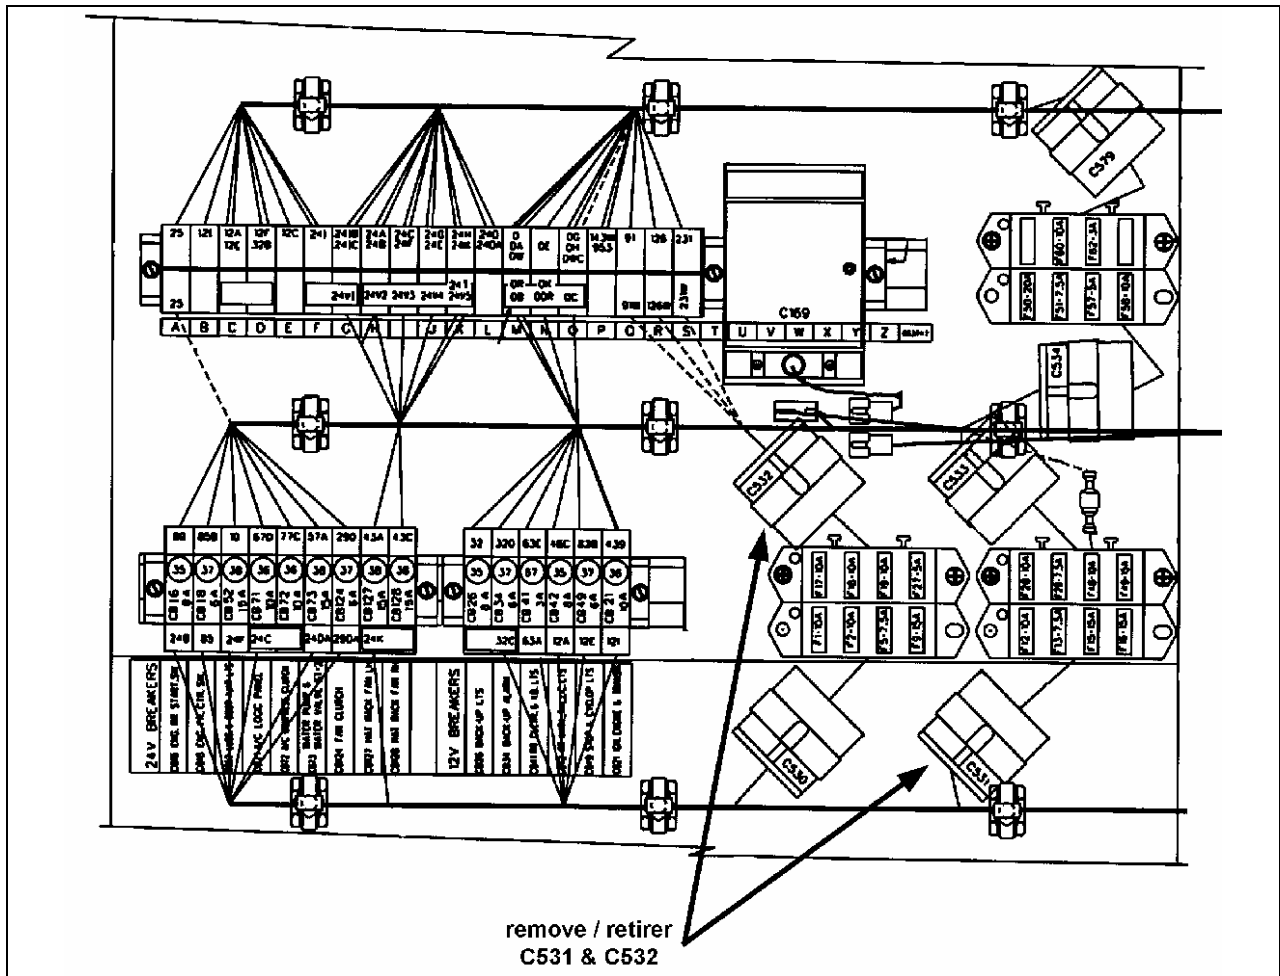

FIGURE 2: REAR JUNCTION BOX INSIDE REAR ELECTRICAL COMPARTMENT (H3 FROM V-1779 UP TO 4-4757)
**H3 SERIES, from V-1779 up to 4-4757:** Locate connector C531 & C532 (figure 2) inside rear electrical compartment.